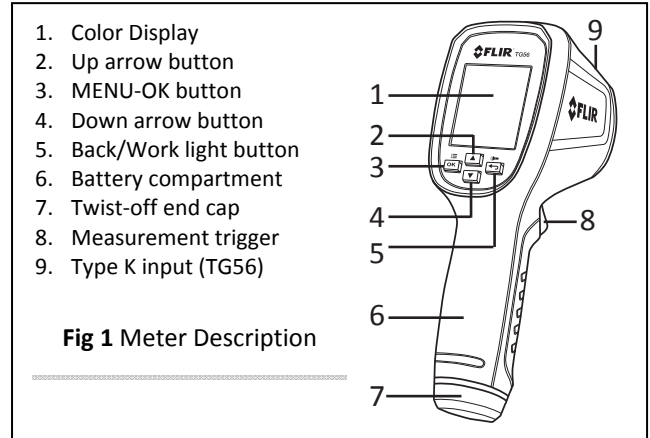

Fig 1 Meter Description
- Review the meter description in Fig. 1.